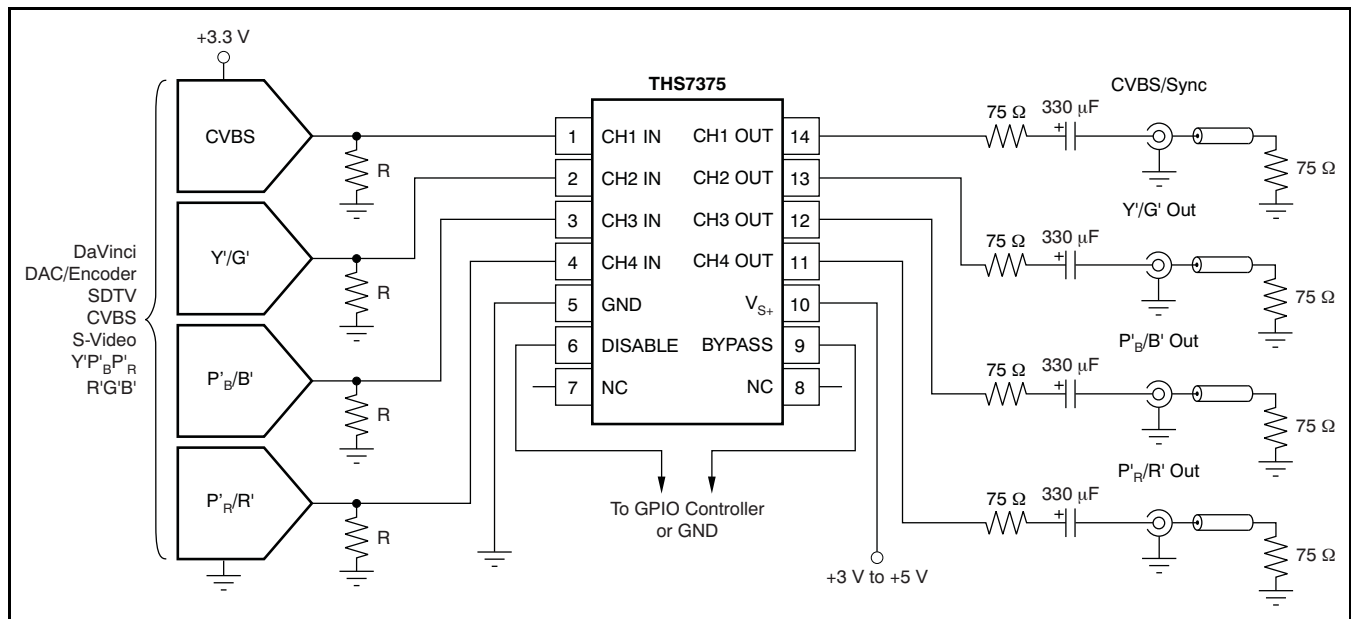

Figure 46. Typical SDTV CVBS/ $Y'P'_BP'_R$ Inputs from DC-Coupled Encoder/DAC with AC-Coupled Line Driving
A typical application circuit that uses the THS7375 as a video buffer is shown in Figure 46. It shows a DAC or encoder driving the input channels of the THS7375. One channel is a composite video (CVBS) channel of a standard definition (SD) video system. The other channels are the component video $Y'P'_BP'_R$ (sometimes labeled $Y'U'V'$ or incorrectly labeled $Y'C'_BC'_R$) signals of a 480i or 576i system. These channels could easily be the S-Video Y'/C' channels or the $R'G'B'$ channels of a SCART system.